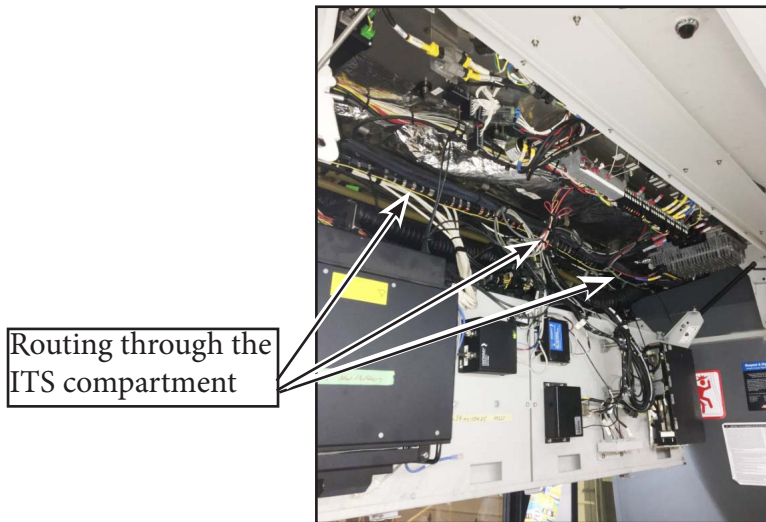

Figure 21 - Front to Back Cable Routing in the ITS Panel Area
2.8. Continue routing and tie wrapping the front to back cable through the ITS compartment (see Figure 21).